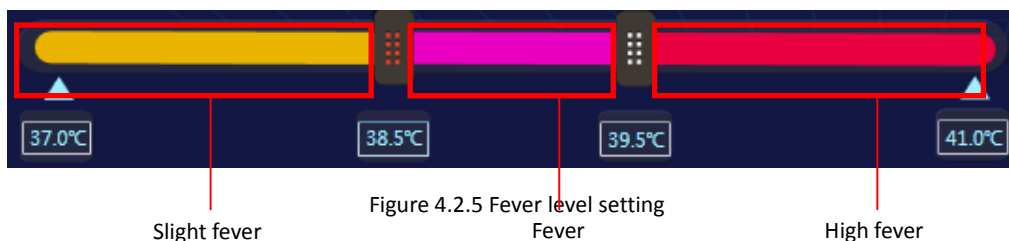

Figure 4.2.5 Fever level setting
(1) Permission alarm: choose to permit the alarm when the alarm event occurs, the "alarm" icon on the main interface  turns blinking red . At the same time the system will issue a warning to remind staff by setting mode – or make color rendering to the alarming target on Infrared Photo, or sending sound alarm, or both. Conversely, if not checked, then when the alarm accident happens without any alarm process. This item is required to be selected.
(2) Permission rendering: select permission rendering; when the alarm occurs, the system automatically according to different alarm levels of infrared images of the target alarming area on the IR image alarm to display with the corresponding color. As shown in Fig. 4.2.5 bar alarm severity from low to high color rendering three levels respectively corresponding to yellow, pink, and red, for example, when a person's forehead area is displayed on the infrared image is red, indicating that this person serious fever. If not checked, when alarming the target area does not be any color rendering, if this time the "Allow Alarm" is turned on, the alarm only yellow crosshairs mark. at the alarm target "Allow Alarm" item activated, "Allow rendering" item is optional; "Allow rendering" activated, three rendering color can be changed, but not the proposed to be changed!
(3) Permission sound alarm: once selected, when the alarm occurs, the system will issue different voices alarm warning based on different grades of alarm; conversely, if not selected, there was no sound alarm. "Permission Alarm" item activated, "allowing sound alarm" item is optional; after "Allow sound alarm" is activated, and three alarm sounds can be changed. The more severe situation happens, and then the degree of the corresponding recommendation alarm sound would be more rapid, slight fever alarm sound can be a little more slowly.
(4) Set alarm temperature range: when the target temperature is within the setting temperature range (as described below 37.0 °C ~ 41.0 °C), determine the alarm event occurs, an alarm event which is divided into three levels, including severe fever, fever and slight fever. Different-level levels alarm match different alarm mode.